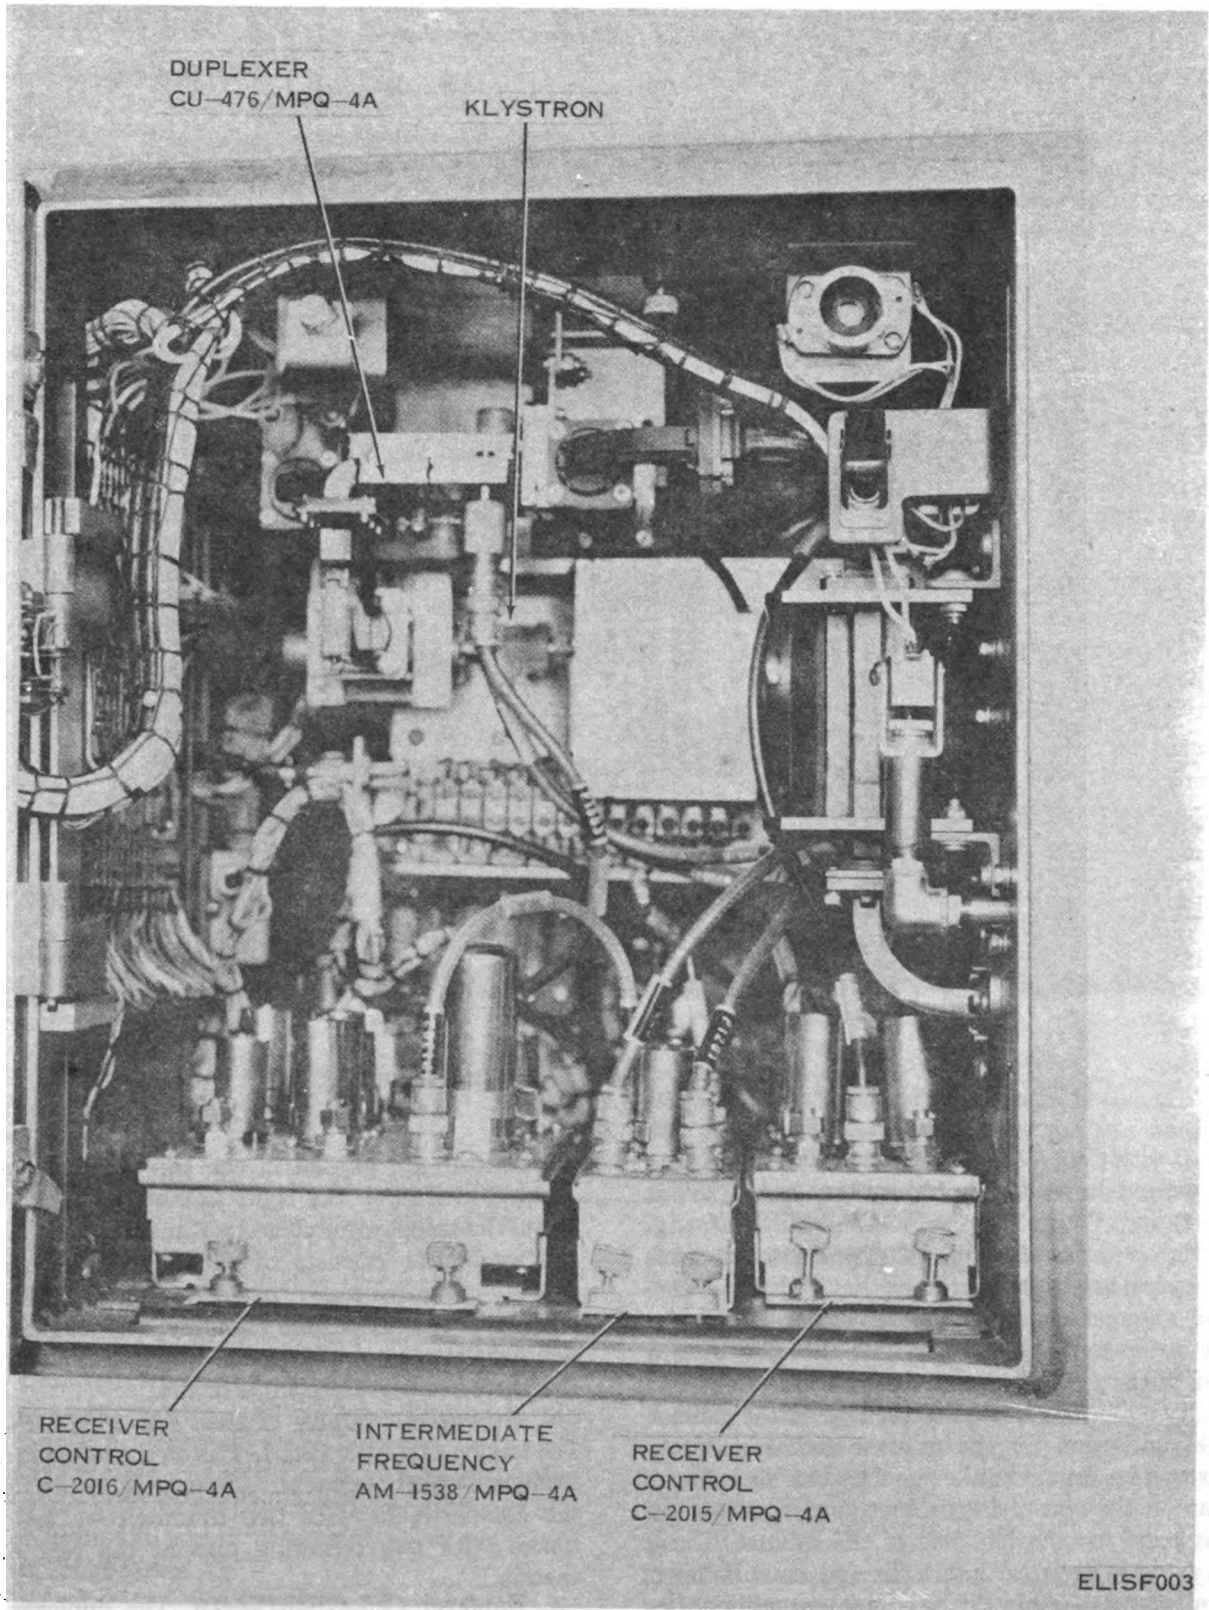
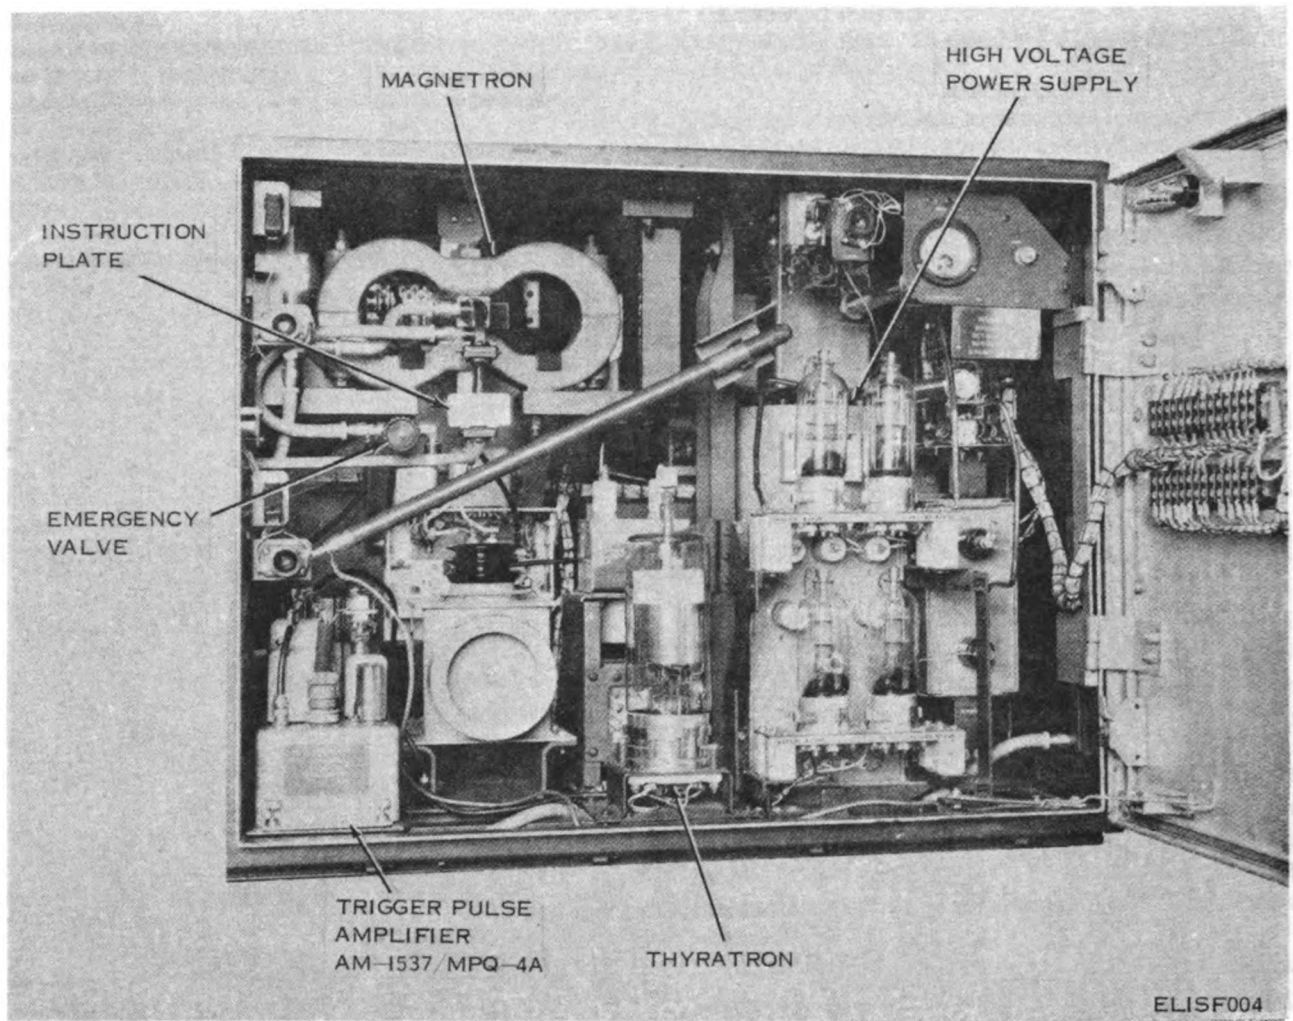

Figure 1-3. Receiver compartment, Receiver-Transmitter Group OA-1257/MPQ-4A.
Figure 1-4. Transmitter compartment, Receiver-Transmitter Group OA-1257/MPQ-4A.
(fig. 1-3) with Control-Monitor C-2102/MPQ-4A (fig. 1-2) mounted on its door, a transmitter compartment (fig. 1-4) and, Power Supply PP-1588/MPQ-4A (fig. 1-2) which is on drawer slides. The compartments contain electrical safety interlocks, so that high direct current (dc) voltages are removed when either door or the drawer is opened. Each door and the drawer are secured with pawl fasteners located on the front panels. Two blowers located at the rear of the cabinet provide ventilation for the receiver and transmitter compartments. An air intake panel and an air exhaust panel are at the rear of the cabinet, with a second air exhaust panel on the left side of the cabinet. These panels actuate electrical interlocks and must be open to permit passage of air, or the equipment will not operate.
transmitter are located in the transmitter compartment, which is on the right side of the cabinet (fig. 1-4). The transmitter consists of magnetron QK-324; the modulator consists of the trigger amplifier (c below), high-voltage power supply, hydrogen thyratron, and associated circuitry. The magnetron is secured between two brackets, which are mounted at the top left side of the compartment.
c. Amplifier, Trigger Pulse AM-1537/MPQ-4A. The trigger amplifier (fig. 1-4) is on the left side of the transmitter compartment. It is secured to the floor of the compartment with two thumbcrews and positioned with two centering pins at the rear of the chassis.
d. Duplexer CU-476/MPQ-4A. The duplexer (fig. 1-3) is mounted in center of the receiver compartment, which is on the left side of the receiver-transmit-
e. Control Receiver C-2016/MPQ-4A. The automatic frequency control (afc) assembly (fig. 1-3) is on the left side of the receiver compartment. It is secured to the bottom of the compartment with two thumbscrews and positioned with two centering pins at the rear of the chassis.
f. Amplifier, Intermediate Frequency AM-1538/MPQ-4A. The intermediate frequency (if.) amplifier (fig. 1-3) is in the front center of the receiver compartment, immediately to the right of the afc assembly. It is fastened to the bottom of the compartment with two thumbscrews and positioned with a centering pin at the rear of the chassis.
g. Control Receiver C-2015/MPQ-4A. The sensitivity time control (stc) assembly (fig. 1-3) is mounted on the right side of the receiver compartment. It is secured to the bottom of the compartment with two thumbscrews and positioned with a centering pin at the rear of the chassis.